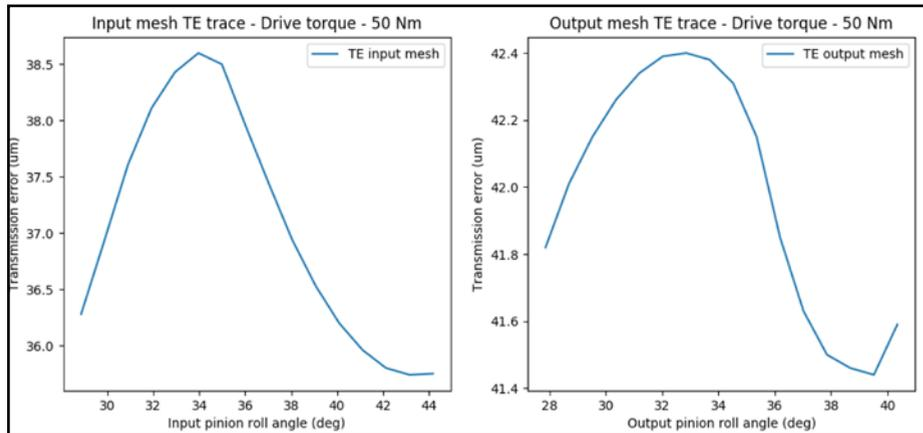

Figure 3 Static transmission error trace for 50 Nm input drive torque for the two gear meshes.
**Figure 3** Normal distribution of the allowable stress number, resulting allowable stress number for different probability of damage; standard deviation of the distribution.
mesh cycle for a drive torque of 50Nm is shown in Figure 3. The peak-to-peak values are 2.86µm and 0.96µm for the input and output meshes, respectively.